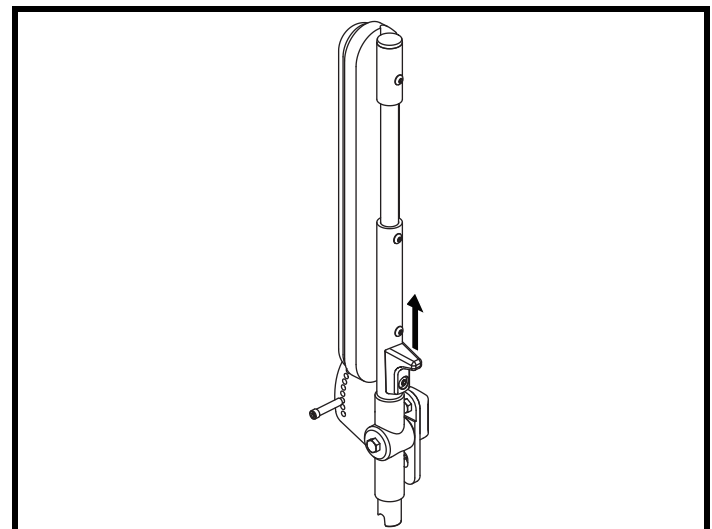

Figure 11. Armrest Latch - Latching Armrests
2. Flip up the armrests. If your wheelchair is equipped with latching armrests, push the armrest latch toward the front of the armrest to disengage the armrest. You will hear a click when the armrest is latched into place. See figure 11.